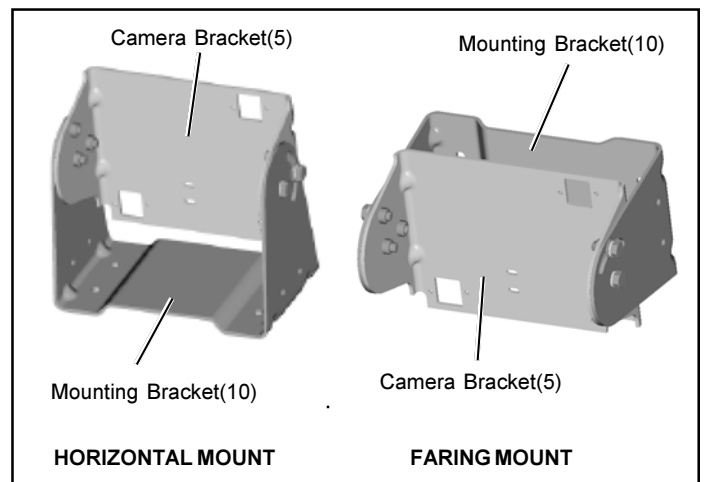

Figure 6 Mating Camera Bracket to Mounting Bracket
- Drill a 1 in. diameter hole through the roof of the truck cab using a step drill like the Unibit®. Drill the hole approximately 3 to 5 in. behind the installed mounting bracket. Refer to Figure 6.